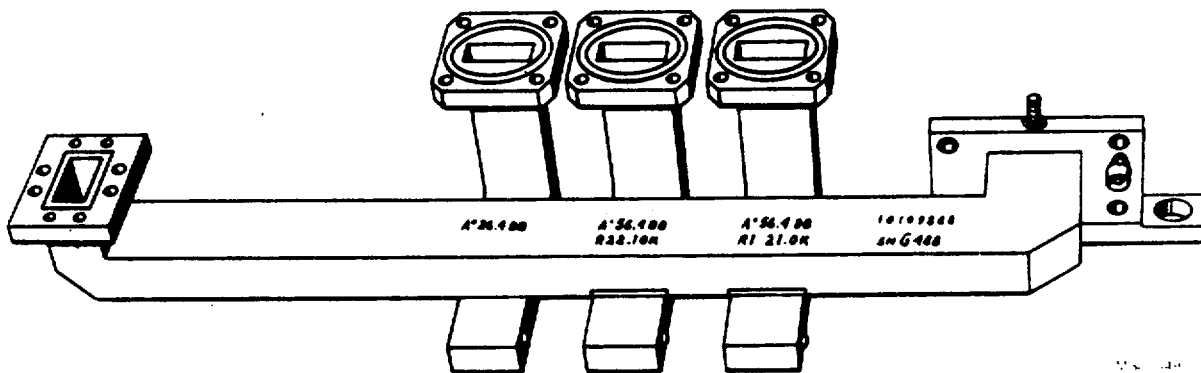

Figure 11. Waveguide.
a. Record the inscriptions exactly as they appear on the waveguide. (figure 11).